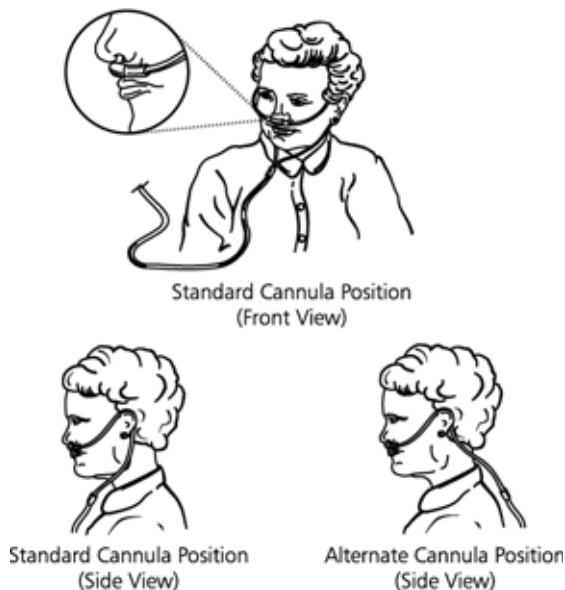

Figure 15: Adjusting the Nasal Cannula
10. Place the oxygen tube on the Portable oxygen outlet connector and adjust the cannula or other breathing device to comfortably fit your face (Figure 15). When the cannula is in place, turn the flow control knob to the prescribed rate.